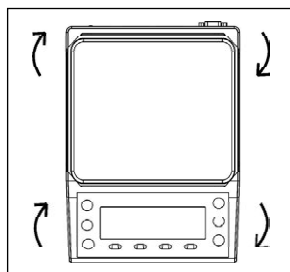

Figure 2-6. Unlock Adjustable Feet
1. Turn the adjustable feet as shown in Figure 2-6 to unlock them.